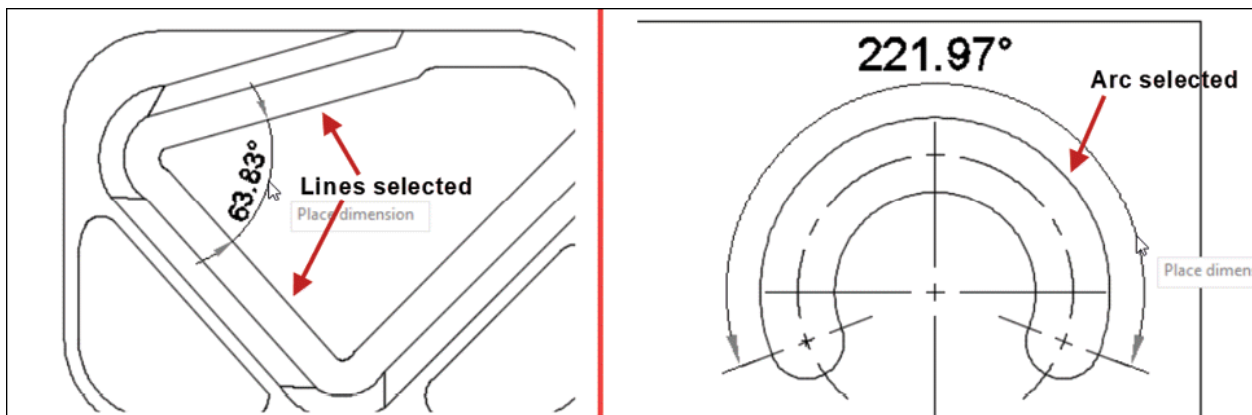

Figure-59. Creating angular dimension
- Select two lines between which you want to create angular dimension or select an arc whose angular dimension is to be created. The dimension will get attached to cursor; refer to Figure-59.